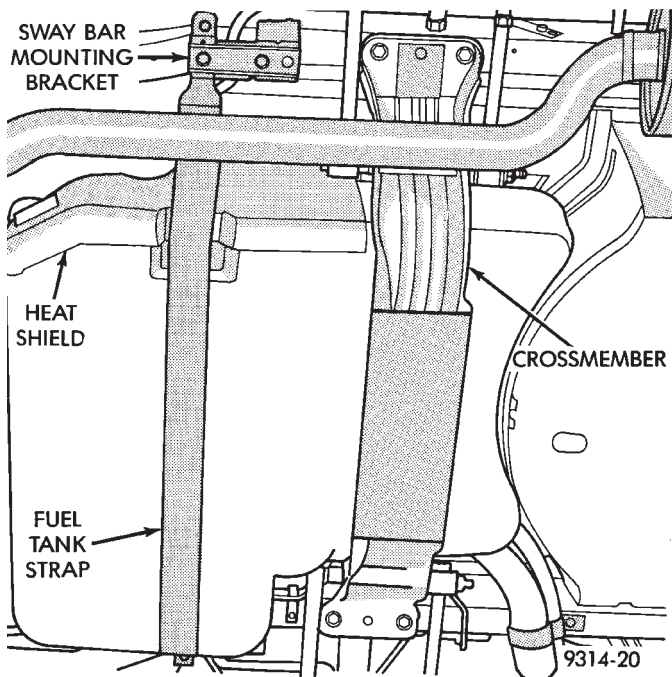

Fig. 6 Crossmember Bolts
(10) Use a grease pencil or marker to outline the position of the crossmember ends on the frame rail.
(11) Remove crossmember mounting bolts (Fig. 6).
(12) Pull crossmember down until it stops.
(13) Place a transmission jack under fuel tank.
(14) Remove sway bar mounting brackets, heat shield, and fuel tank strap (Fig. 6).